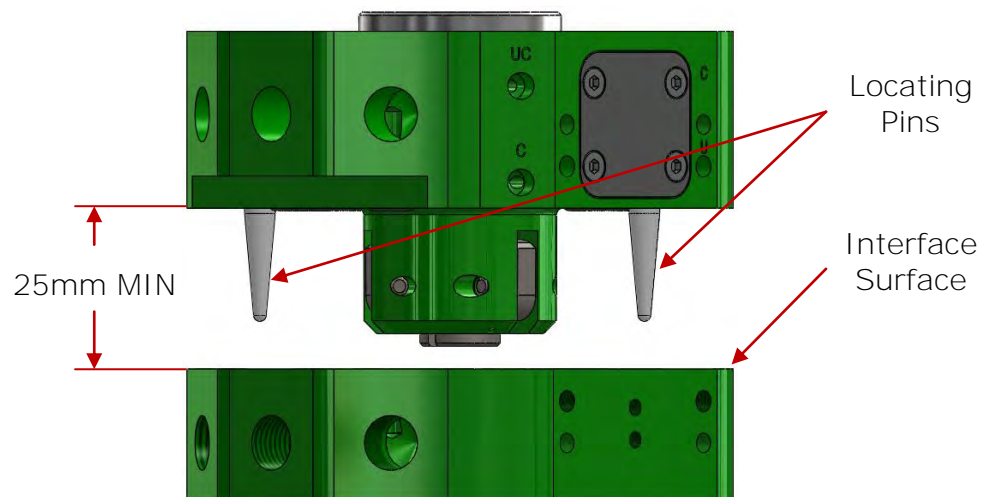

Figure 6.2-1. E50 Tool Changer – Docking Orientation
1. Orient the Robot Adaptor and Tool Adaptor so that the centerline axes are aligned and the interface surfaces are parallel. Maintain approximately 25mm minimum separation between the Robot Adaptor and Tool Adaptor interface surfaces (Figure 6.2-1).